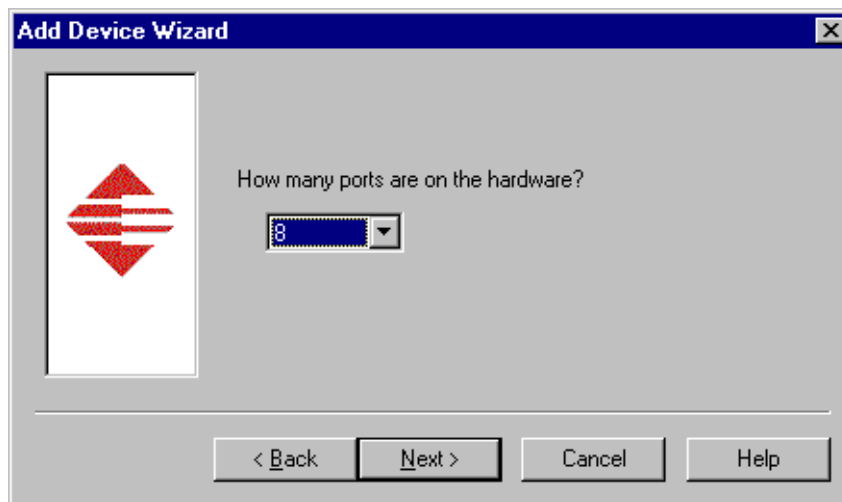

Figure 6. Select eight ports.
10. Select eight ports on the hardware (see Figure 6), then click **Next**.